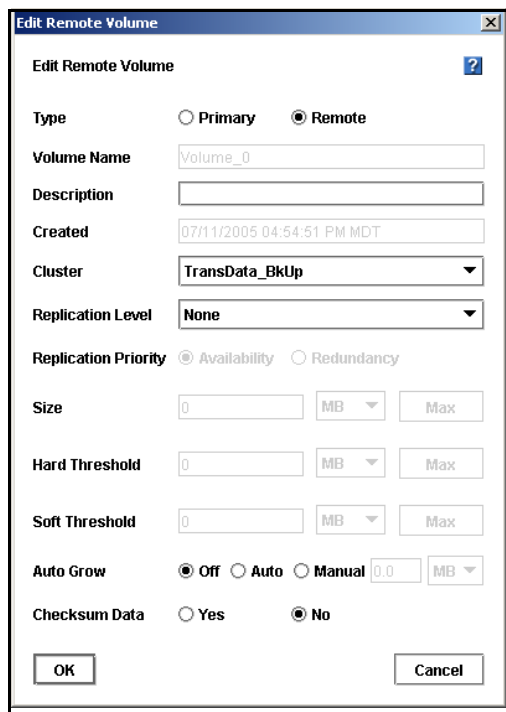

Figure 252. Finalizing the New Remote Volume
7. Click OK. The snapshot is created and the volume becomes a remote volume. The Edit Remote Volume window opens again with the editable fields enabled, as shown in Figure 252.